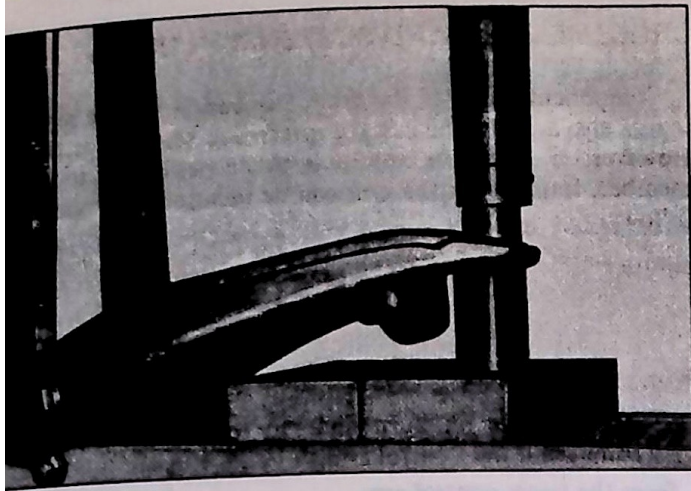

Fig. 17—Installing Lower Ball Joint (Typical)
4. Press new ball joint assembly into arm. If press ram diameter is large enough to cover O.D. of ball joint assembly, press joint into arm with ram in direct contact. If ram is smaller, use metal tube or block (fig. 17). Make sure ball joint assembly is fully seated and square with arm.